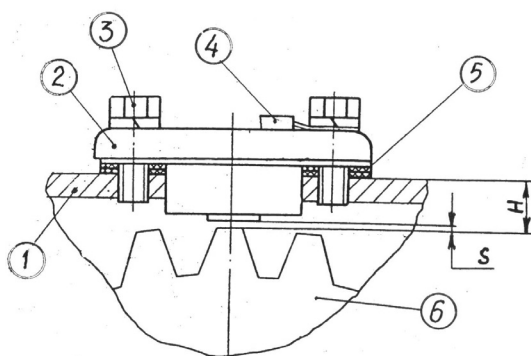

Fig. 6. Setting the speed sensors:
1.13 Setting and Adjustment of the speed sensors (BV1, BV2) (Fig. 6)